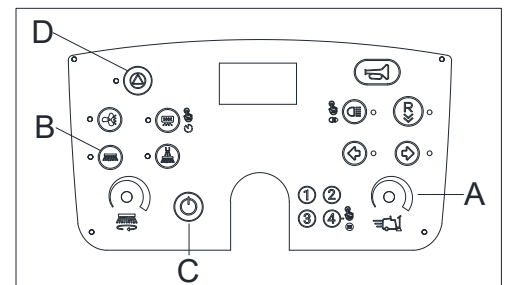
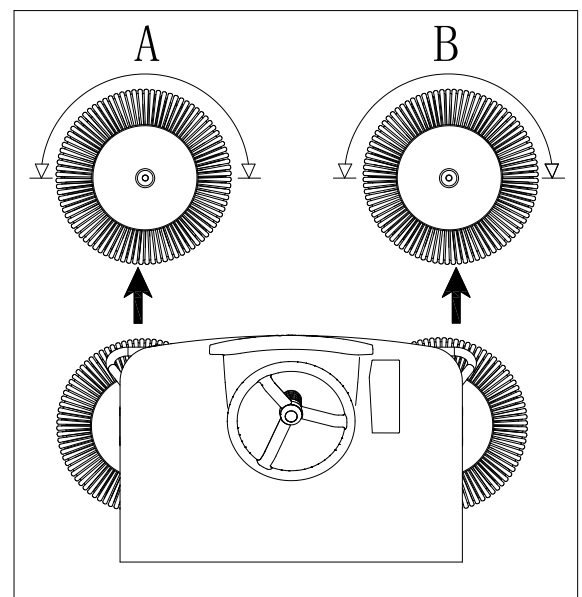
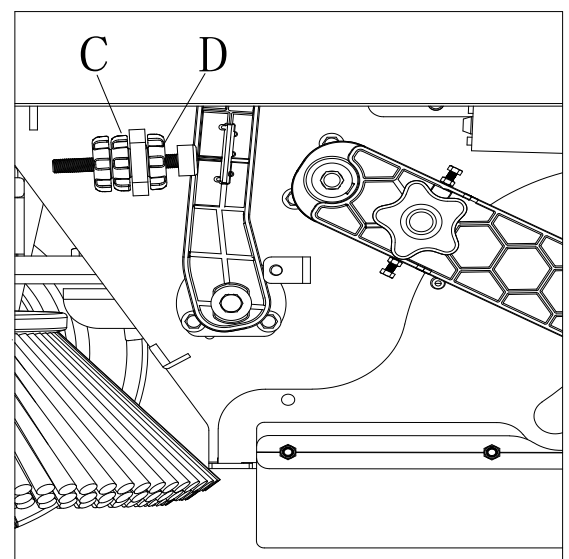

Figure 24
Figure 25
Figure 26
- Adjust the speed to the minimum using the machine speed dial (A, Figure 24).
- Press the start button (D, Figure 24) to enable cleaning.
- Press the side broom button (B, Figure 24) to lower the side broom to working height, press the accelerator pedal, and let the side broom run for 1 minute. Check if the side broom print (A and B, Figure 25) matches the specifications (A and B, Figure 25). As shown.
2. Press the power button (C, Figure 24) to turn off the power.
4. First, unscrew the knob nut (D, Figure 26), then adjust the height of the side broom by turning the adjustment knob (C, Figure 26) until the side broom print matches the illustration (A and B, Figure 25). After adjustment, tighten the knob nut (D, Figure 26).